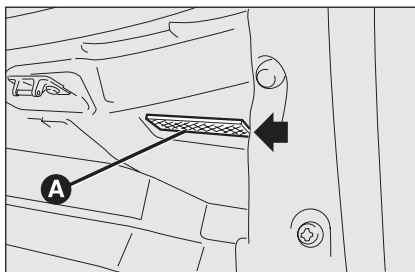
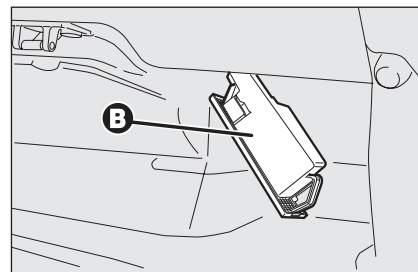

fig. 48
fig. 49
- ☐ remove the light unit **A-fig. 48** levering in the point shown by the arrow;
- ☐ raise protection **B-fig. 49** and replace the snap-fitted bulb;
- ☐ close protection **B-fig. 49** on light unit **A-fig. 48**;